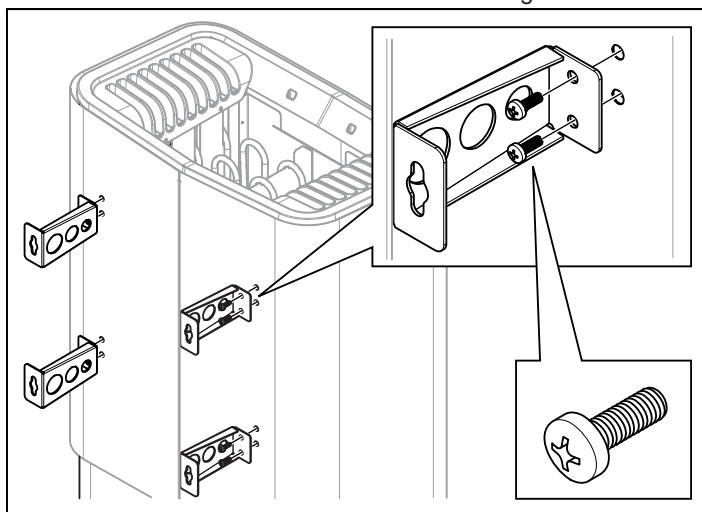

Figure 11: Attaching the brackets to the heater
8. Unscrew the first two screws on the back of the heater and screw one of the four brackets into place. Repeat the procedure until all of the brackets are fitted see Fig. 11.